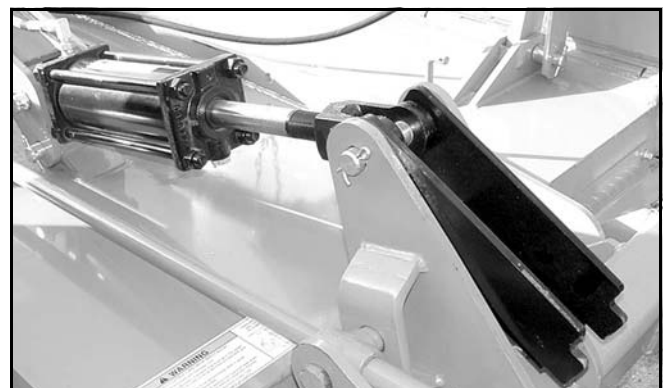

Figure 4. Transport Lock In Operation Position
4. To lower cutter for operation, extend hydraulic cylinder to raise cutter. Rotate transport lock back away from cylinder rod (Figure 4).